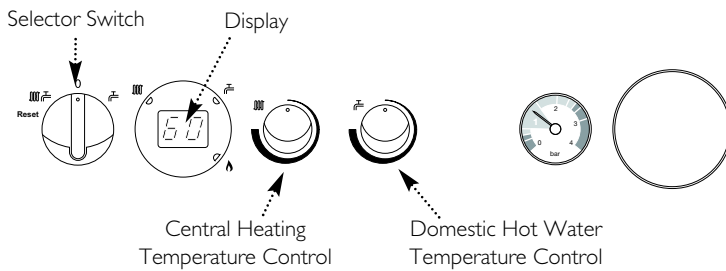

Fig. 62a
6. With the boiler operating in the maximum rate condition check that the operational (working) gas pressure at the inlet gas pressure test point (Fig. 62a) is in accordance with B.S. 6798 & B.S. 6891.